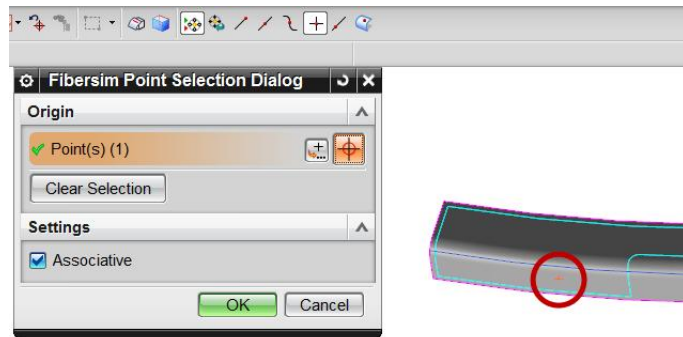

Figure 3–62
4. Select the indicated point for *Origin* as shown in Figure 3–62.